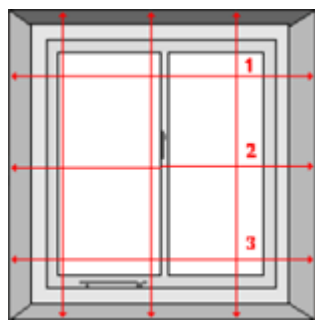

Fig.1 Measuring Inside the recess
1. Measure the width of the recess from wall to wall in three places as shown on Fig.1 above and use the shortest measurement of the three if they vary. Immediately note down the measurement.
2. Measure the drop by taking the measurement from the top of the recess to the window sill in three places as shown in Fig. 1 above. Use the shortest measurement of the three if they vary. Note down the measurement.